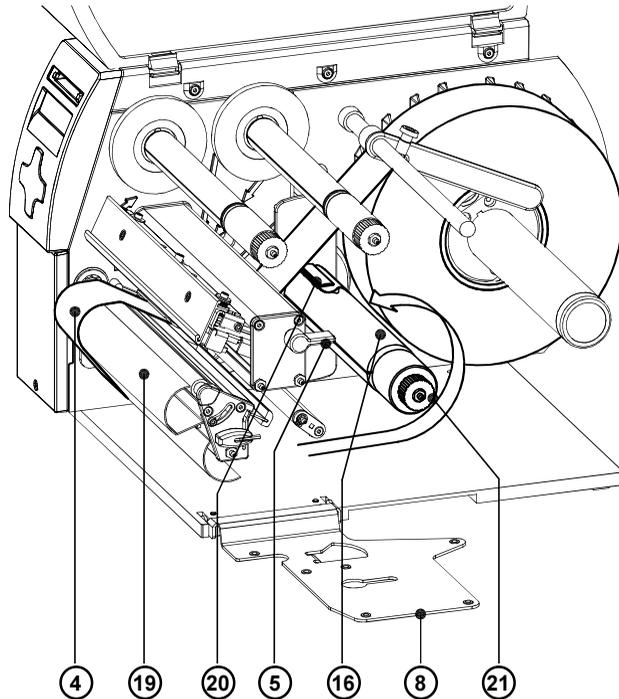

Fig. 7f Loading Labels from Roll in Rewind Mode
12. In rewind mode, the rewind guide plate (19) must be mounted. Remove the labels from the first 4 in (100mm) of the label strip. Then, slide the media strip (4) around the rewind guide plate (19) to the internal rewind hub (16) as shown in figure 7f. Slide the strip under the clamps (20) that are located on the internal rewind hub (16). Hold the internal rewind hub (16) and rotate the nut (21) counter-clockwise until it is tight. The media strip now will be fastened to the internal rewind hub (16). Rotate the internal rewind hub (16) counter-clockwise to tighten the media strip.
13. Swing back the plate (8) to the print mechanism.
14. Lower the printhead by rotating the lever (5) counter-clockwise until it stops.